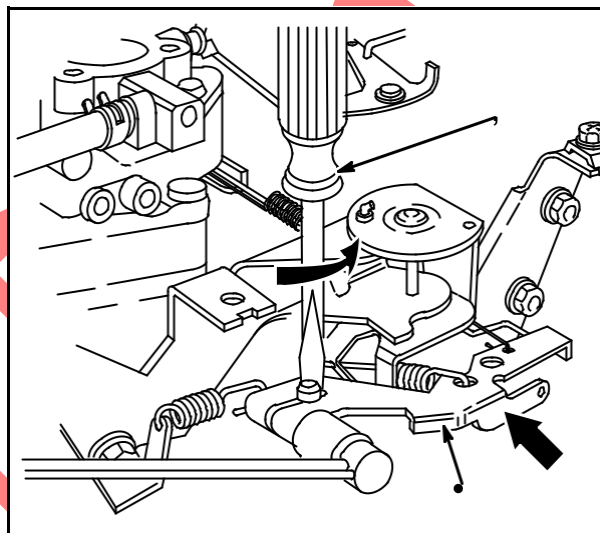

Fig. 44
Use a screwdriver (2) to rotate governor shaft **COUNTERCLOCKWISE** as far it will go, **Fig. 44**. Torque governor nut to **70 in. lbs. (8 Nm)**.